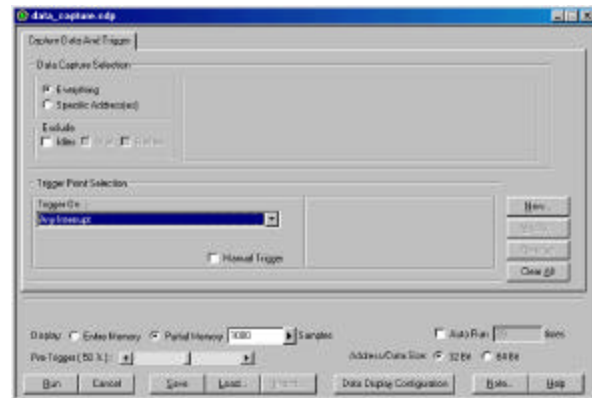

Figure 8 Capture Data and Trigger Dialog Box
1. Click the **Green** button on the Main Menu bar to open the Capture Data and Trigger dialog box shown in Figure 8.